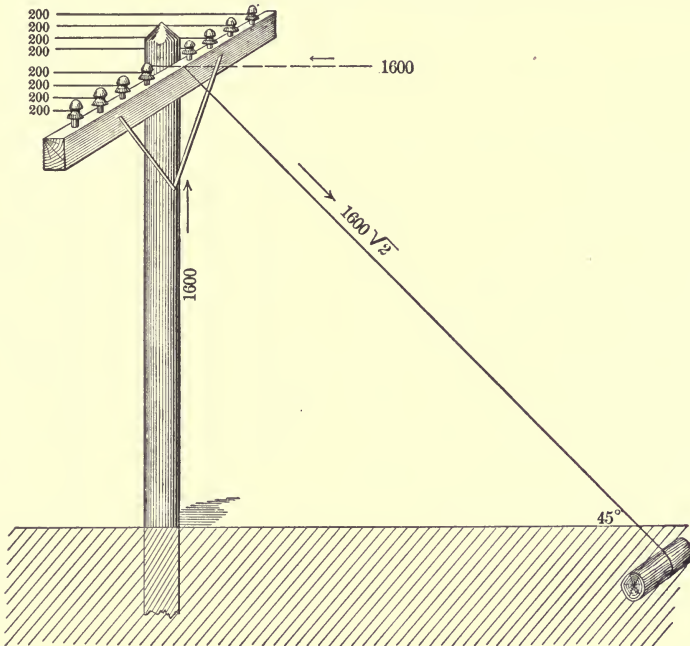

FIG. 24.
to Fig. 24. The end pole of a telephone line of 6 wires must be held in by a guy wire. Each line is under tension
3. If in Fig. 24 the guy wire makes an angle of 60° with the horizontal, how many strands must be placed in the guy?